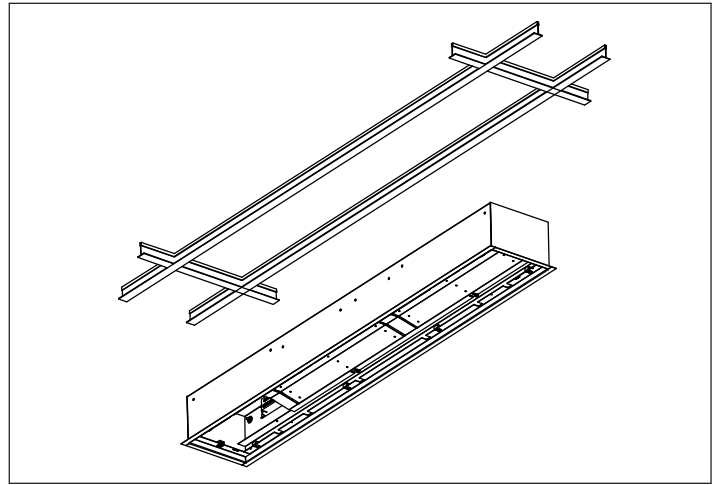

Figure 2
2. Raise fixture into ceiling. (Fig. 2)